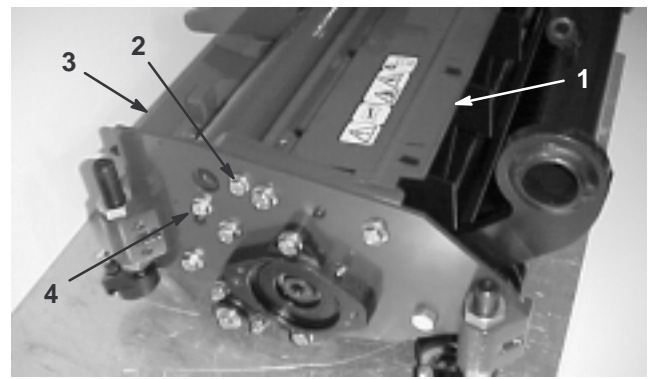

Figure 2
2. Loosen flange head capscrew securing shield to right side plate. Move shield to desired angle and tighten screw (Fig. 2).
1. To open rear shield (Fig. 2), loosen flange head capscrew securing shield to right side plate, rotate shield to open position and tighten capscrew.